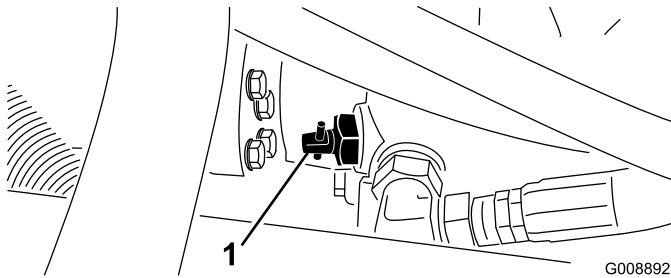

Figure 42
- Locate the bypass valve on the pump (Figure 42) and rotate it 90°.